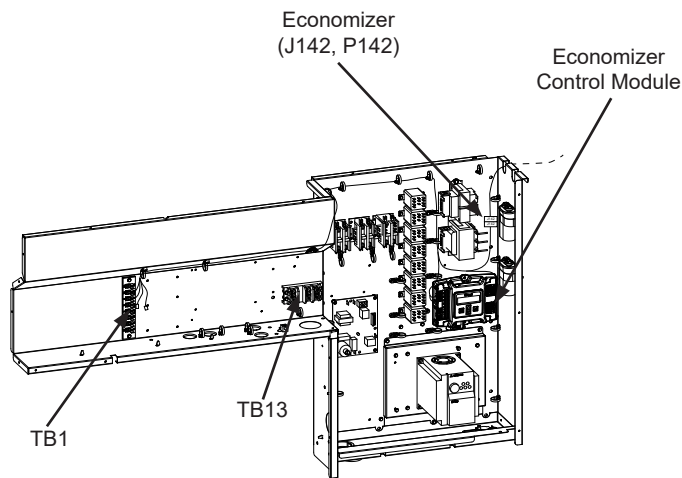

Figure 9 - HVAC Control Box
1. The economizer control module and harness are located next to actuator for shipping. Relocate the control module to the unit control box, see Fig. 9.